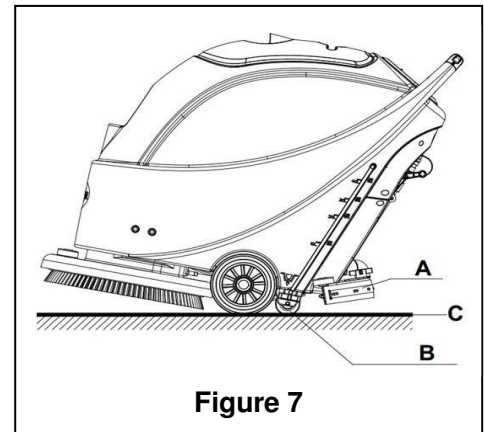

Figure 7
8. Release the safety switch (1) to turn off the brush/pad-holder and solenoid valve.
9. Press the Vacuum switch (39) to the "Off" position, and the Vacuum will delay for 5 seconds before stopping work.
10. Press the solution control switch (40) to the "Off" position to completely turn off the solution flow.
11. Press the power switch (38) to the "Off" position. And disconnecting the power cable (9) from the power supply.
12. Use the squeegee lift handle (14) to lift the squeegee.
13. Grasp the handle (2) and gently tilt the machine backward until the guide wheel (B) touches the floor. See Figure7.